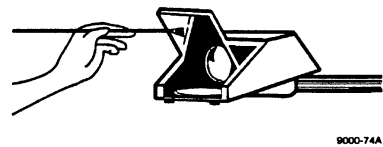

Figure 3-2. Removing Surface Dirt
1. To remove surface dirt, use a soft brush or compressed air. Figure 3-2.